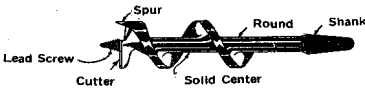

FIGURE 3. Insulator Pin Bit.
2.07 *Insulator Pin Bit*: This bit consists of a solid center twist provided with a head containing a single cutter, a single spur and lead screw having 12 threads per inch. The length of the bit has been limited to 6-7/8 inches to permit operating the brace between crossarms having standard spacing. See Figure 3.